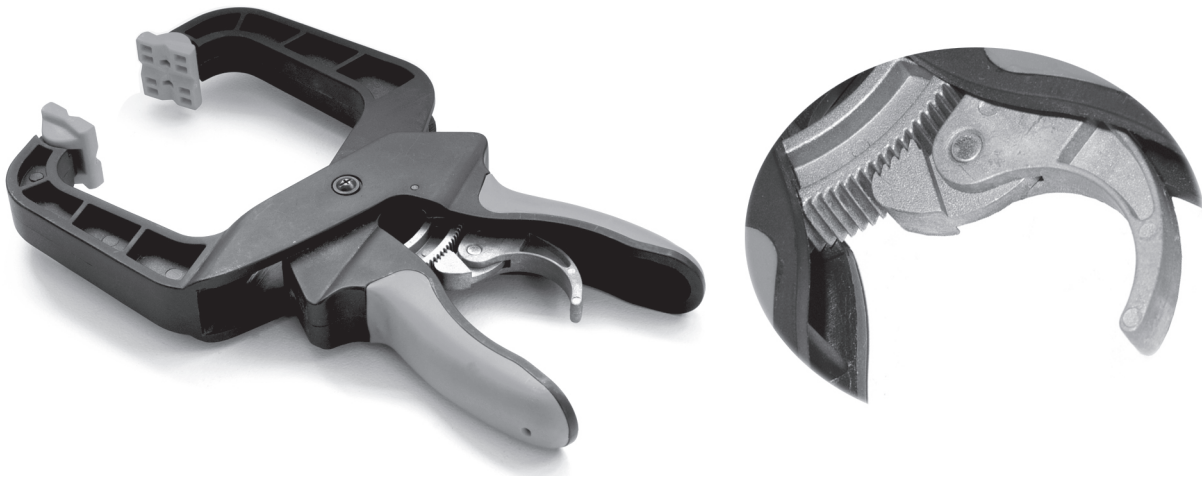

Fig. 16
- (d) Fig. 16 shows two views of a clamping device that uses a ratchet and pawl to hold its jaws closed. A release trigger will allow the clamp to open.